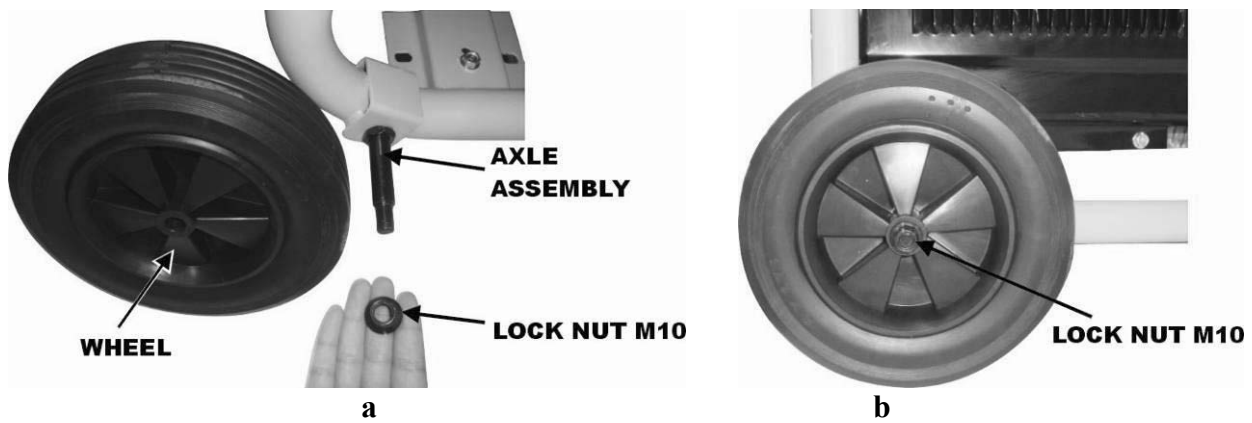

Figure 6- wheel installation
3. Slide the wheel onto the axle and secure in place using a large cotter pin as shown in figure 6. Spread the pin legs apart slightly to help secure the pin in place.